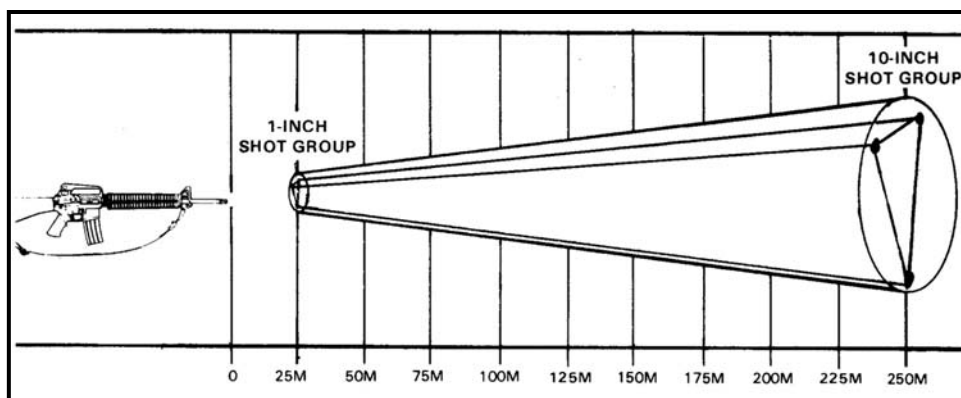

Figure 5-38. Increase in shot-group size as range increases.
(2) *Increase of Shot-Group Size.* Just as the distance covered by a minute of angle increases each time the range increases, a shot group can be expected to do the same. If there are 2.54 centimeters between bullets on a 25-meter target, there will be an additional 2.54 centimeters of dispersion for each additional 25 meters of range. A 2.54-centimeter group at 25 meters (about 3.5 minute of angle) is equal to a 25.4-centimeter shot group at 250 meters (Figure 5-38).